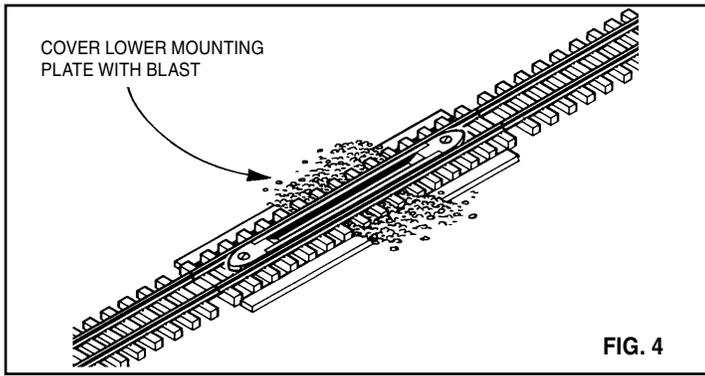

FIG. 4
6. If you have installed uncoupler on roadbed, fill the gaps between lower track mounting plate and layout base with sections of roadbed trimmed to fit. You may wish to add some glue to these sections for rigidity. If you have installed uncoupler directly to layout base, you may wish to spike or glue lower track plate down for strength. Now, cover plate with ballast glued in place with white glue. See Fig.4.